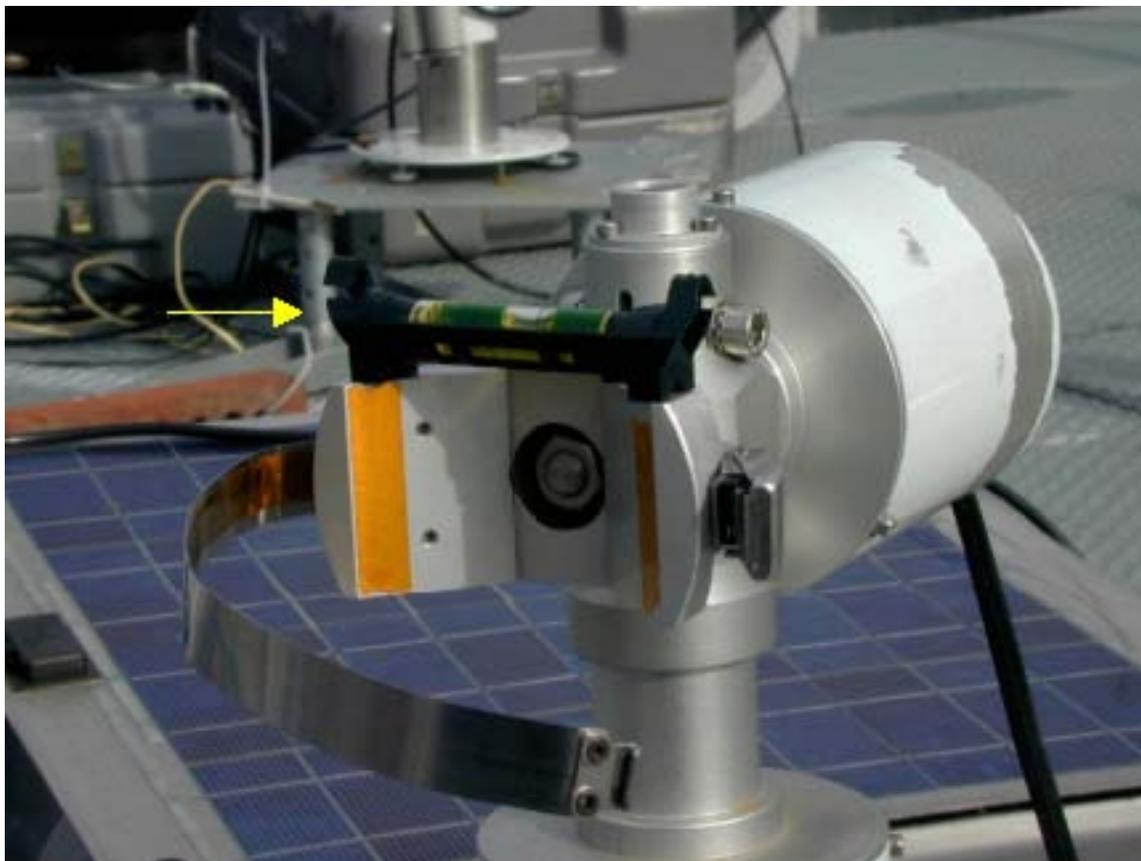

Figure 5: Leveling robot claw (sensor head attachment point)
6. Do a PARK procedure (see the Cimel Sun photometer Manual). When PARK is complete, it should result in a parked position where the sensor head collimator is pointing down, perpendicular to the ground. Place the bubble level on the top of the metal claw arm (FIGURE 5) and verify that this is level.